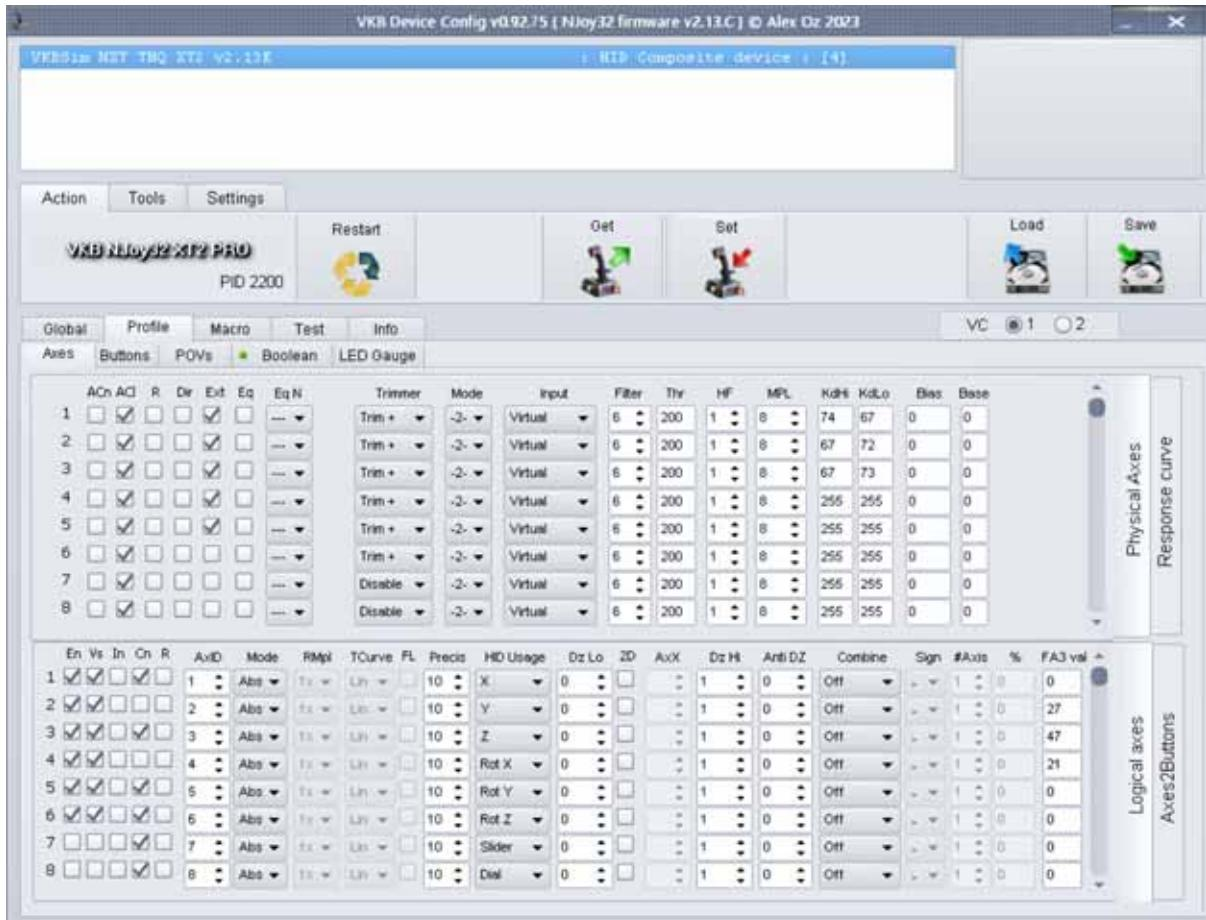

Fig. 2.1.
After you launch **VKBDevCfg-C.exe** the main **VKBDeviceConfig** window will appear. The title bar contains configurator version (Fig. 2.1).
2. Run *VKBDevCfg-C.exe*, select joystick name in the list (fig. 2.1 on p. 19).